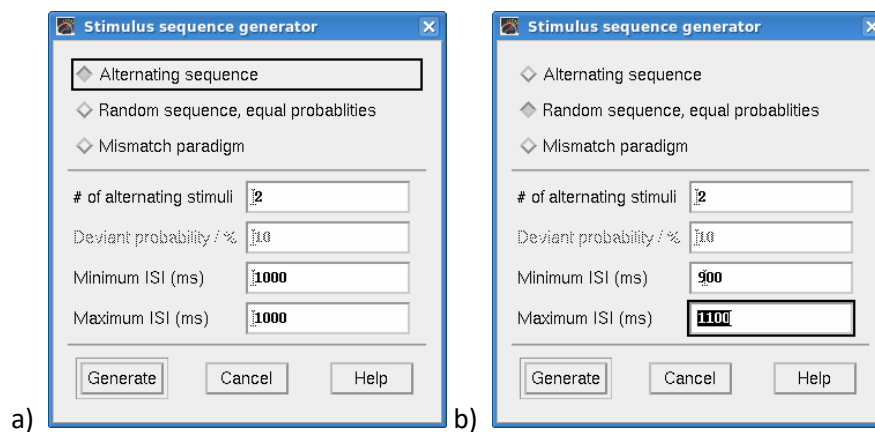

Figure 27. Stimulus sequence generator for internal stimulus. A) Alternating sequence with a constant ISI. B) Random sequence with a variable ISI.
- Setup **Alternating** or **Random sequence** (Figure 27). Number of stimuli can be 1 or more.
- Setup Minimum and Maximum ISI for **Constant** or **random** ISI (Figure 27).